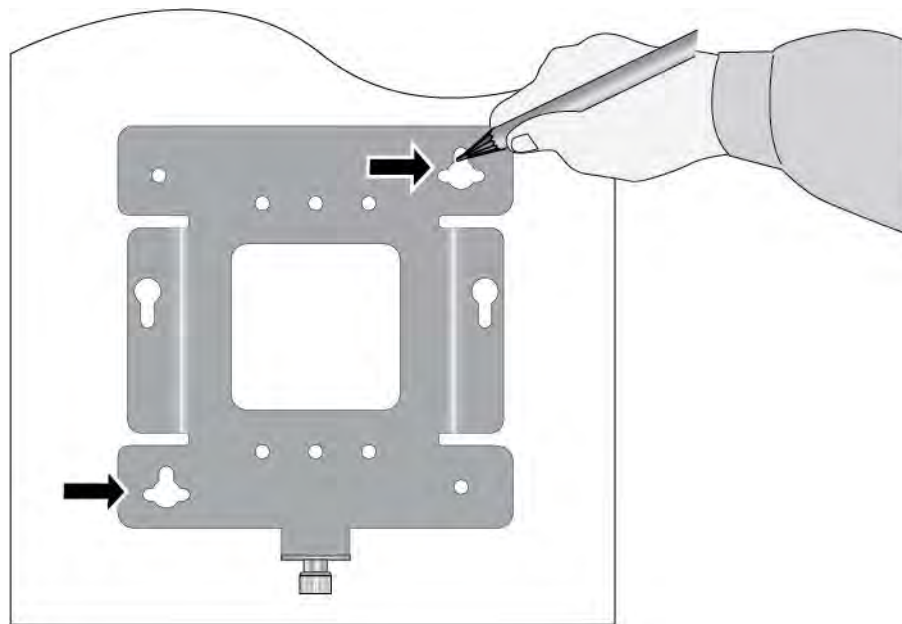

Figure 17. Marking the Holes for the Key-Hole Slots
3. With a pencil, mark the wall or ceiling with the two key-hole slots of the bracket. Refer to Figure 17.